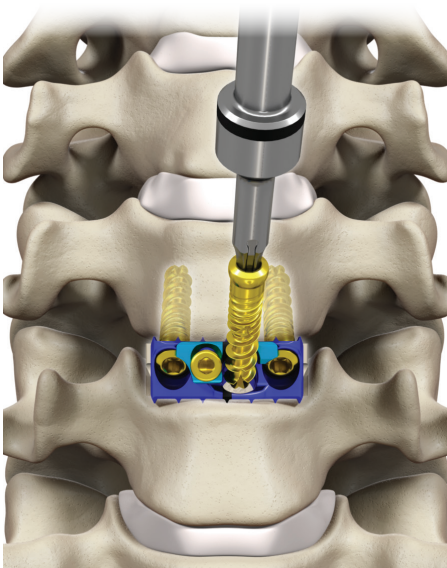

Figure 74
- Remove the awl/drill and guide. Load the desired screw onto the 2.0 Mm hex driver. Insert the screw through the midline screw hole, advancing the screw until the screw head contacts the plate to provisionally stabilize the plate. Ensure that the driver is on axis to the prepared screw trajectory during screw insertion and final tightening (Figure 74).